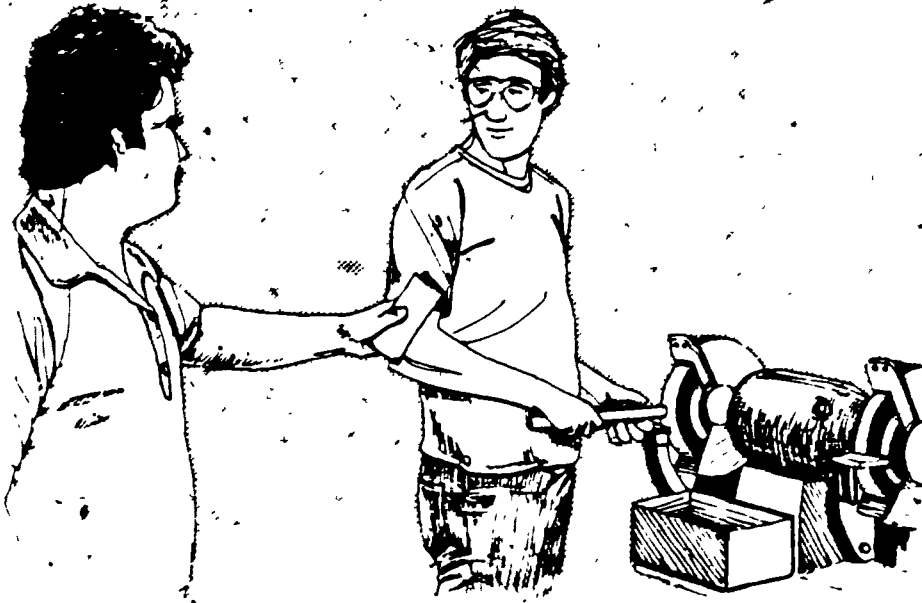

Figure 21. Never talk to anyone who is working with a machine.
2. Never talk to anyone who is working with a machine. (See Figure 21.)